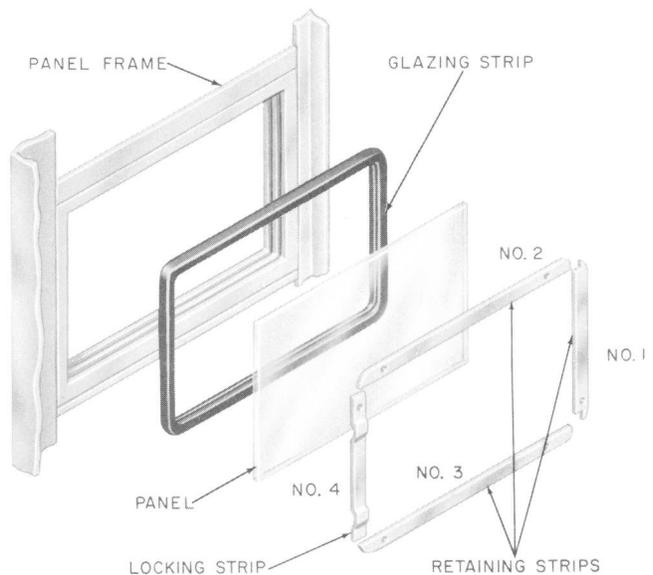

Fig. 2—Assembly of Side or Rear Panels
7.02 Booth panels and signs are held in place by four interlocking retaining strips. They are inserted in sequence as shown in Fig. 2. The No. 4 strip is rippled and is held in place by interface friction.
- (1) Remove No. 4 locking strip.
- (2) Remove retaining strips No. 2 and 3.
- (3) Remove retaining strip No. 1.
- (4) Remove panel and rubber glazing strip.
- (5) Apply rubber glazing strip to replacement panel.
- (6) Insert panel into frame with the beaded edge of glazing strip on the outside.
- (7) Replace retaining strips in sequence as shown in Fig. 2.
**8.02** The side and rear signs are removed in the same manner as the side panels (see 7.03 and Fig. 2).